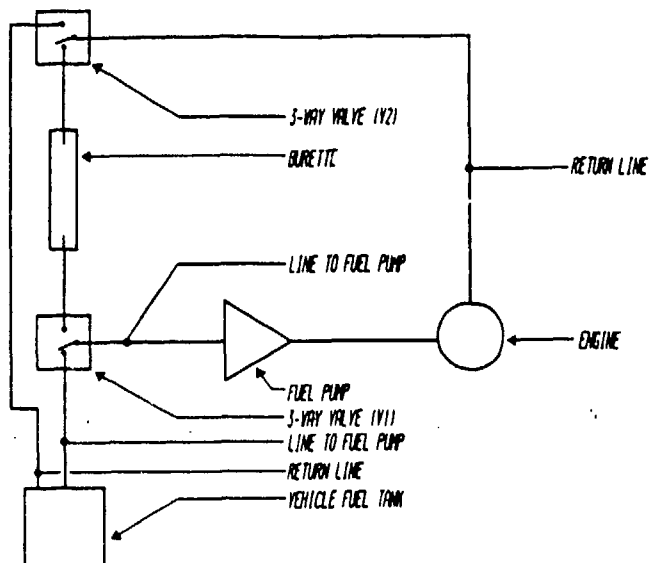

Figure C-1. Diagram of burette method fuel consumption test.
- b. Connect instruments as indicated in Figure C-1.